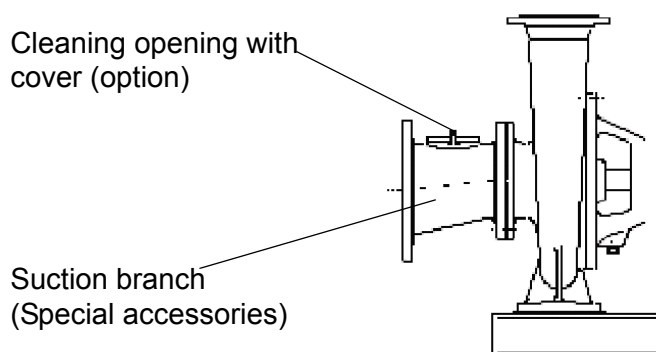

Fig. 4-8 Suction pipe
- If a reducing piece is installed directly upstream of the centrifugal pump, the narrowing section thereof should always be at the bottom (Fig. 4-8).